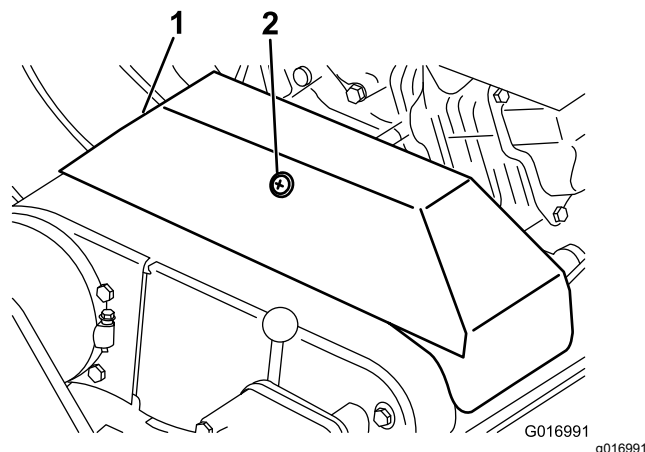

Figure 39
3. Loosen the retainer that secures the V-belt cover and pivot the cover open (Figure 39).